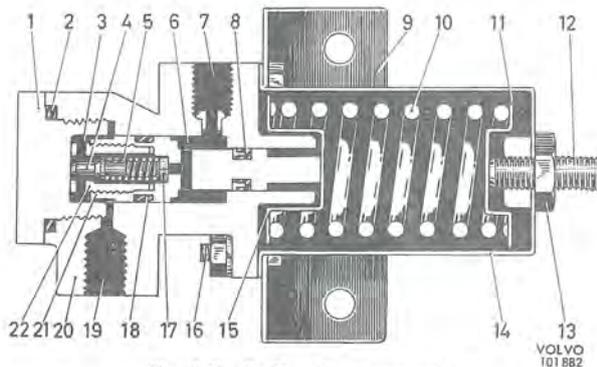
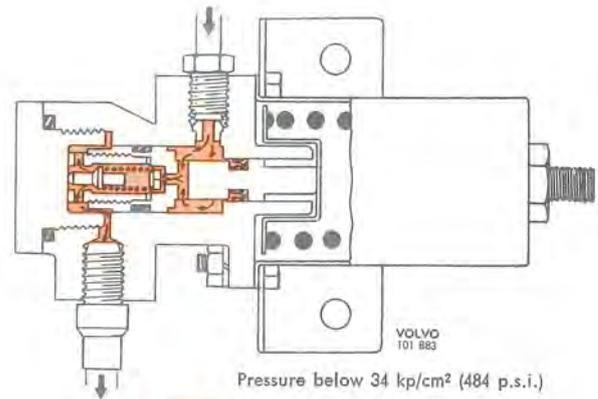

Fig. 5-41. Brake valve, construction
Fig. 5-42. Brake application
A brake valve is connected to each of the rear wheel brake lines, see Fig. 5-6. When the ingoing brake pressure exceeds 34 kp/cm2 (484 p.s.i.) a reduction takes place in the valve. The more powerful the pedal pressure, the greater will be the reduction and thereby the larger the difference between the hydraulic pressure in the front wheel and rear wheel cylinders. This results in a suitable distribution of braking force between both pairs of wheels. The construction of the brake valve is shown in Fig. 5-41 and its function is the following.
When the footbrakes are applied, the pressure from the master cylinder is transmitted via the connection (7, Fig. 5-41). The pressure then proceeds through the cylinder (6), the counterbore, past the valves (17) and (4) to cylinder (3) and then on through connection (19) to the rear wheel cylinders, see Fig. 5-42. The hydraulic pressure per unit surface is equal on the different parts of the piston (21), but since its pressure surface is larger in cylinder (3) than in cylinder (6), the force developed will move the piston to the right of the figure. However, this is counteracted by the pressure from the springs (10).
in cylinder (6) moves the piston to the left so that the valve rod comes up against its stop and opens the valve this causing the pressure in cylinder (3) to increase. Due to the larger pressure surface in this cylinder, the piston is moved to the right again and the valve closes. In this way, the piston assumes a position of balance and the outgoing pressure from the brake valve will be lower than the ingoing pressure, see Fig. 5-42. The difference in these pressures is determined by the different areas and spring tension.
When the brake pedal is released, the pressure in the cylinder (6) falls. The piston (21) is moved to the right by spring (10). When the pressure on the right-hand side of the valve (4) falls so much that the hydraulic pressure on the left-hand side enables the valves to be actuated, the connection between both the cylinders is opened again. As the pressure falls, spring (10) presses the left piston back to its original position where the valve is held in the open position by mechanical means, see Fig. 5-41. The equalizing valve (17) is fitted with control channels which ensure an even flow of pressure through the valve.